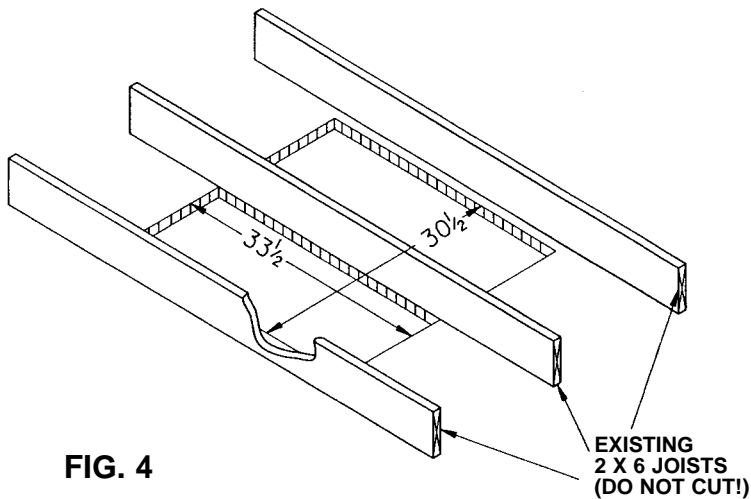

FIG. 4
STEP 3 - Now clear insulation and find pilot holes in attic. Tentatively lay out same rectangular holes on ceiling below. Adjust location of hole if necessary to ensure a minimum vertical clearance from roof rafters of 18" above fan. (See Fig. 3.) There must be a minimum of $30\frac{1}{4}''$ between the three joists and a maximum of $31\frac{1}{4}''$ to allow proper installation of shutter. (See Fig. 4 & 5.)
STEP 4 - Carefully cut hole in ceiling, being careful not to cut into center joists. Cut along both sides of the center joist, leaving the $1\frac{1}{2}''$ (approximately) strip of ceiling sheet rock covering the center joist. If you have 2 x 4 joist construction, the joists on which the fan will be mounted must be built up to 2 x 6 joist height. This can be done very easily at this point by nailing (3) 2 x 2 furring strips 40" long to the top of the joists, one on each joist. (See Fig. 4 thru 7.)